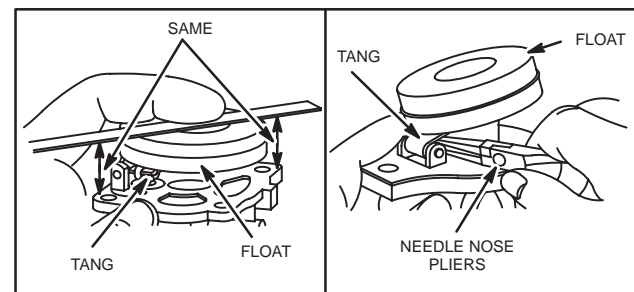

Fig. 289 – CHECKING FLOAT LEVEL
3. If not, bend tang on float until they are parallel. DO NOT PRESS ON FLOAT TO ADJUST, Fig. 289.